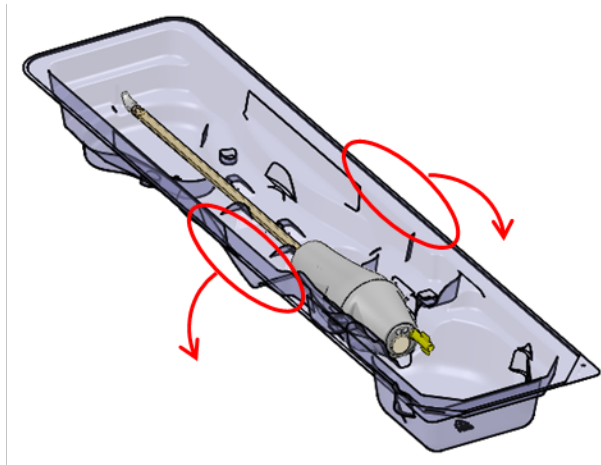

Figure 23: Releasing the UA from the packaging tray
3. **MRI Technologist:** While holding the UA packaging tray by the long edges of its perimeter, flex the tray to release the UA from its snap features (*Figure 23*).